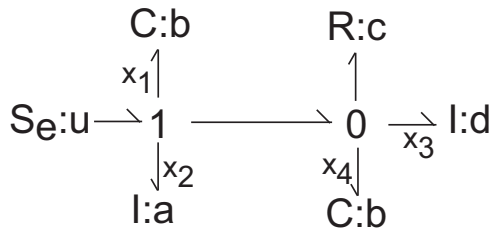

Figure 1: Bond graph.
Fig. 1 shows the bond graph (BG)1 for a fourth order system with the state variables labeled. The output is the flow through the  $I$ -element with parameter  $d$ .